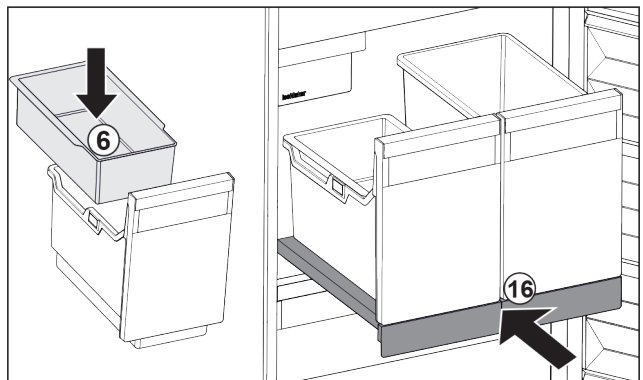

Fig. 96
- ▶ Insert hang-on tray Fig. 96 (6) for ice cubes.
- ▶ Slide in the pull-out board with (IceTower) container. *Fig. 96 (16)*